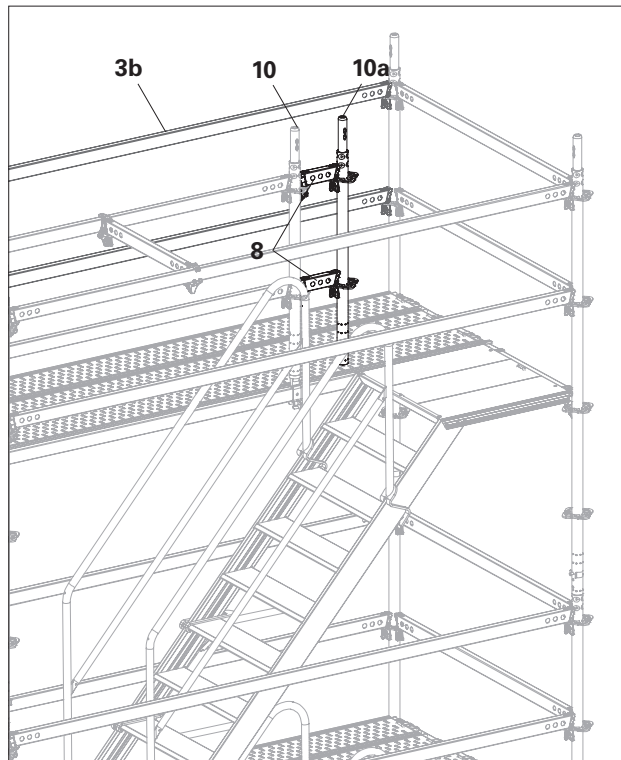

Fig. B5.06
6. Hook the assembly (**8 + 10a**) with the horizontal ledgers (**8**) into the standard (**10**). Secure the wedges. (Fig. B5.06)